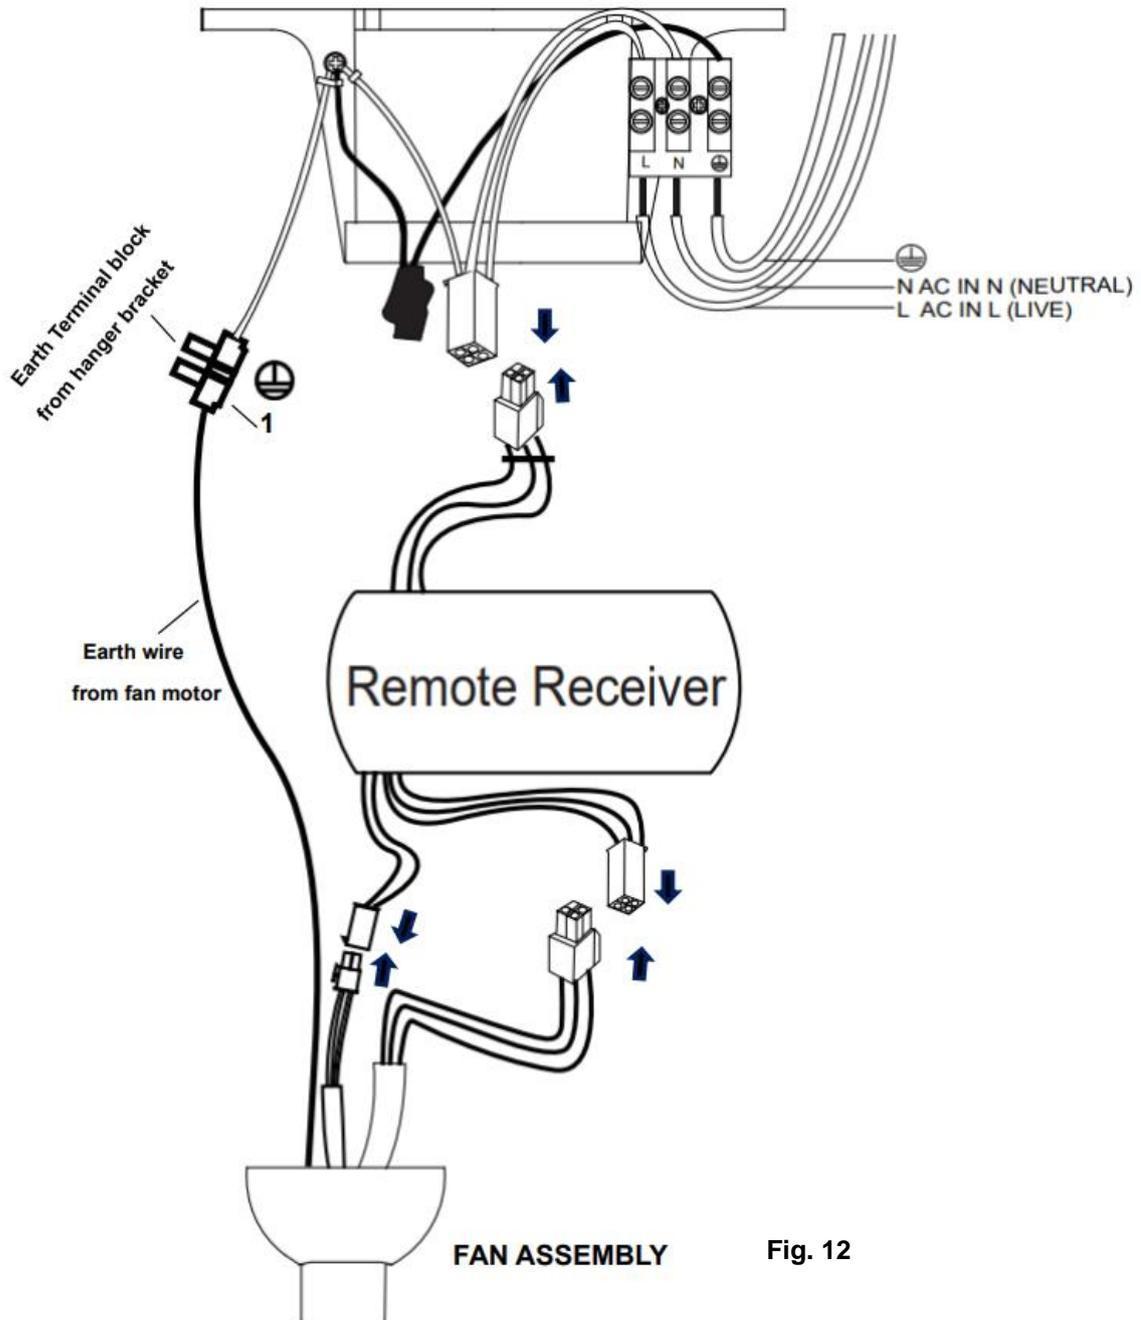

Fig. 12
**ELECTRICAL WIRING DIAGRAM THE FAN****PREPARE AND COMPLETE THE ELECTRICAL WIRING --- WIRING DIAGRAM (FIG. 12)**
**NOTE:** Ensure the motor earth wire is connected to the single earthing terminal block “1” in the diagram below (Fig. 12).
**From mains supply to mounting bracket terminal block: (Fig. 12)**
**From mounting bracket to receiver and motor: (Fig. 12)**